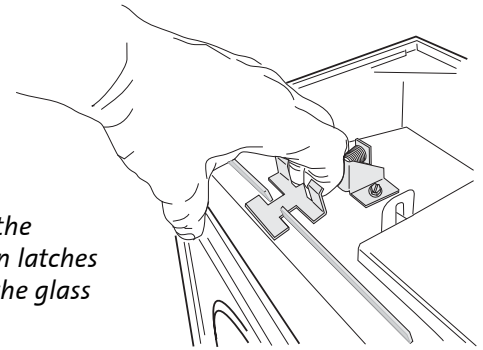

Figure 48.
- 2. Remove the Glass Frame.** Disengage the two compression latches located at the top of the firebox and lift the glass frame up and off of the stove. See fig. 48.